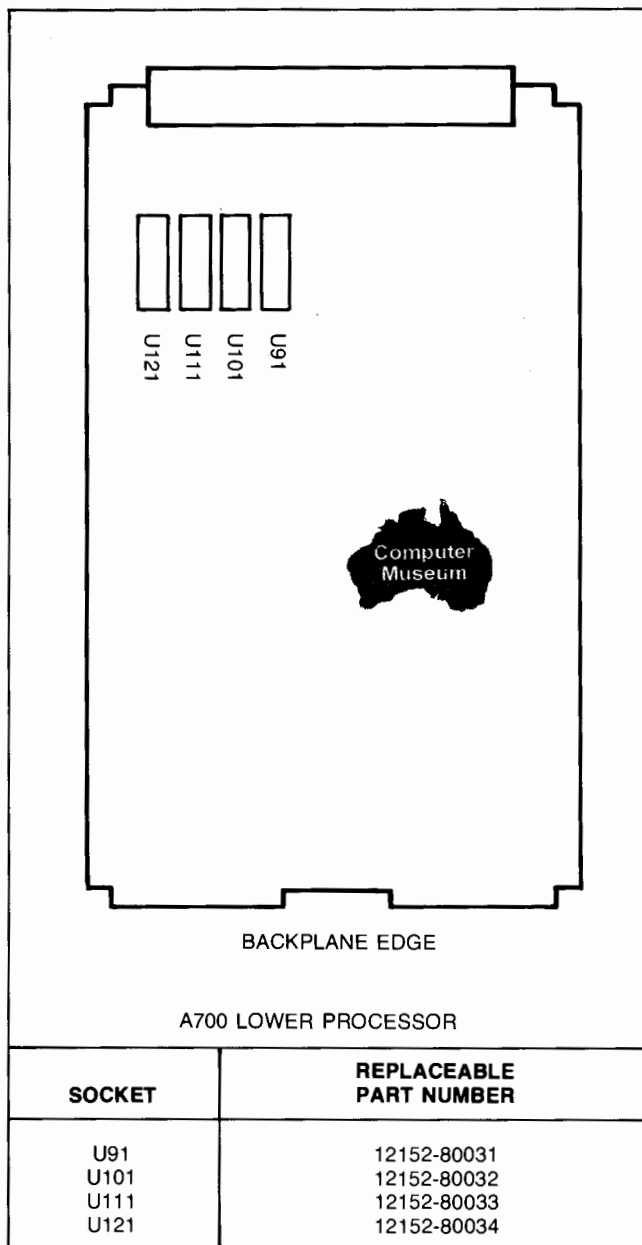
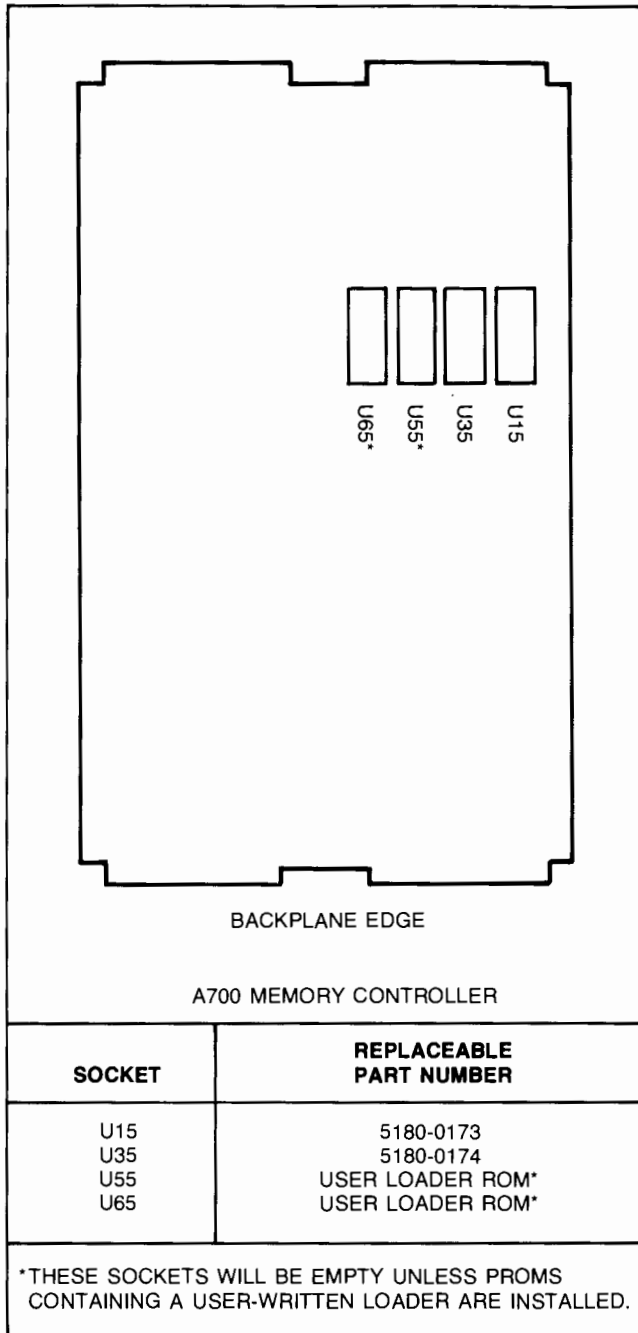

Figure 2-5. A700 Lower Processor PROM Location Diagram
Figure 2-6. A700 Memory Controller PROM Location Diagram
- a. Refer to Figure 2-5 or Figure 2-6.